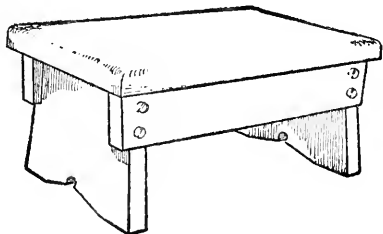

Fig. 8.
- (5) Dimension and letter the plate. (See Fig. 1.) Note the title strip used. The spacing of the guide lines for the lettering is shown in Fig. 4. Fig. 8 shows a Perspective or picture view of the finished stool.